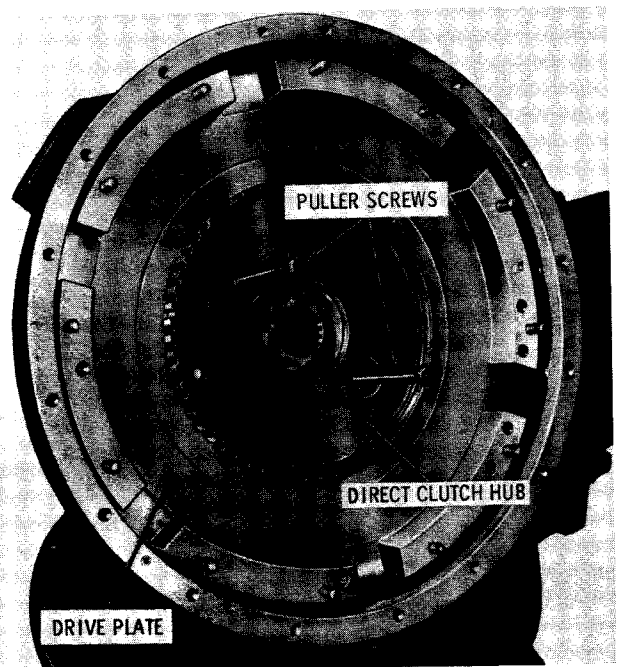

Fig. 5-23. Removing clutch drive plate and direct clutch hub (VH series)
(9) Install two 7/16-14 puller screws through the drive clutch hub and bearing retainer, and into the drive plate (fig. 5-23).